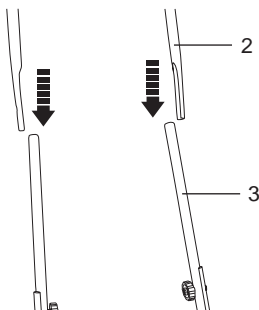

Fig. 8
5. Align the upper handle bar (2) with the middle handle bar (3), make sure the two holes are on the right side (Fig. 8). Secure them with handle assembly set (5) with locking knob located inside on each side (Fig. 9).